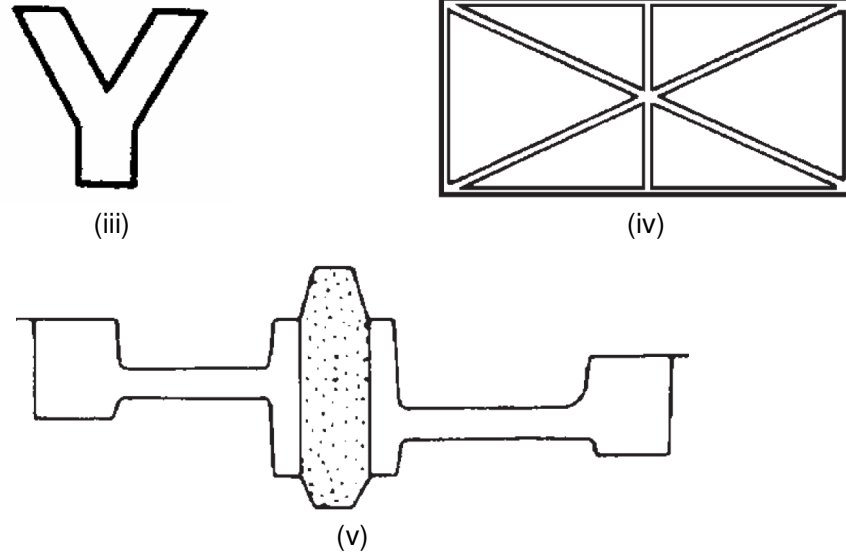

Figure 4
- Suggest and justify the suitable modifications on the design of the following components as shown in figure 4 for ease of casting.